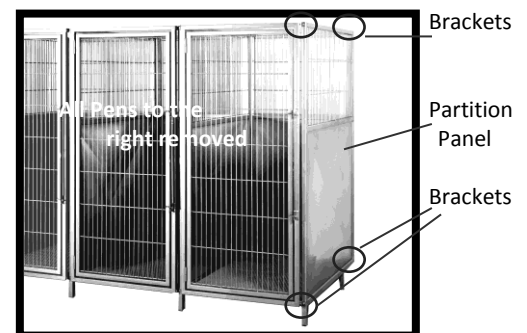

Figure 58: Brackets Holding the Partition Panel to the Pen System
2. With a 1/2in. wrench, remove the cap screws that hold the partition panel to the brackets on the pen system (Figure 58). **Note:** If the pen system is back-mounted to a facility wall, disconnect the panel from the brackets on the wall.